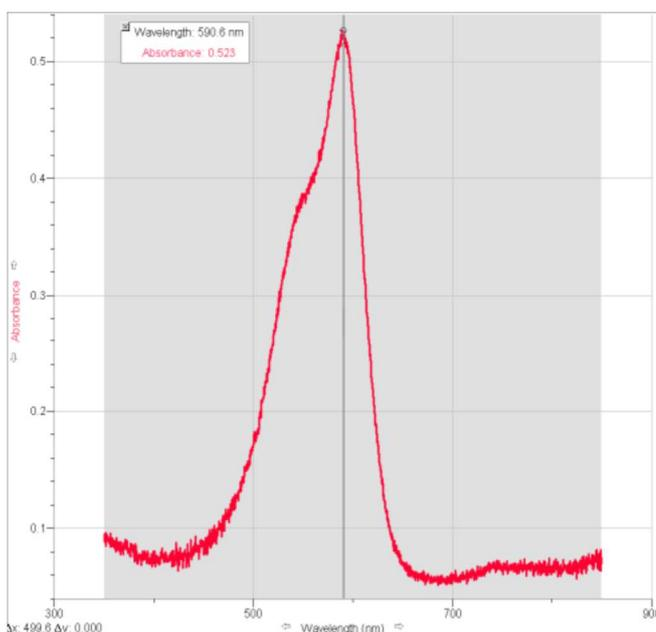

Figure 3. Spectrum of Crystal Violet with the Examine Tool.
2. You can read the absorbance using the Examine tool, by clicking on . Then move the cursor along the spectrum. The wavelength and absorbance will be displayed in the new dialog box in the data window, Figure 3. Determine the wavelength of maximum absorbance. Use this same wavelength throughout your experiment.